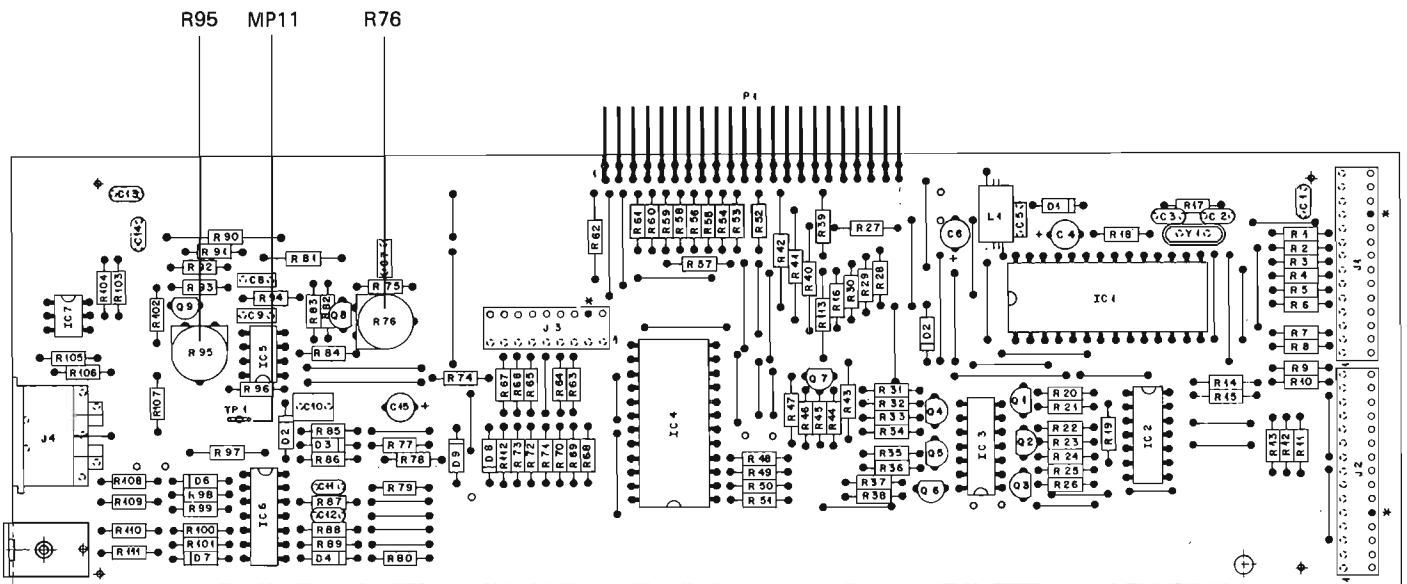

Fig. 4.7
- Press station selector key 12 (97.925 MHz) and adjust the reading on the digital voltmeter to 1.8 V \pm 10 mV with R95 (1.726.780, Fig. 4.7).